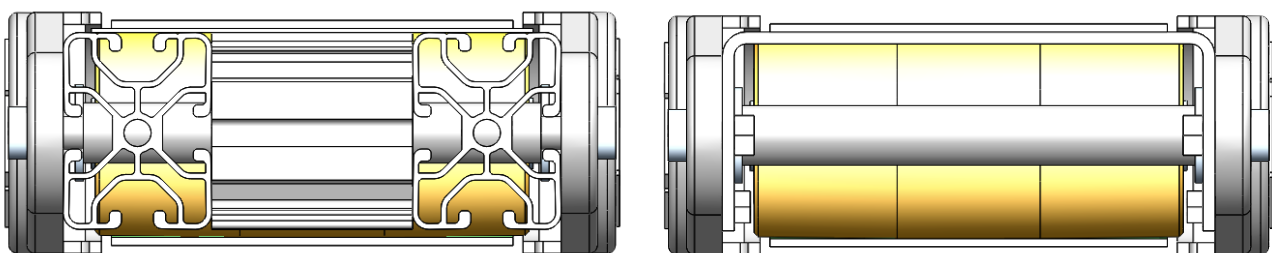

Fig. 1: Conveyor body types
- Match the joints having the same numbers (Fig. 1).